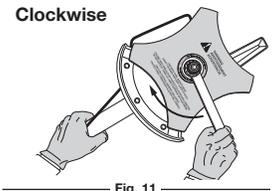

Fig. 11
2. Hold the locking rod in place by grasping it next to the shaft housing (Fig. 11).
3. While holding the locking rod, loosen the nut on the blade by turning it clockwise with a 1/2 inch closed-end or socket wrench (Fig. 11).